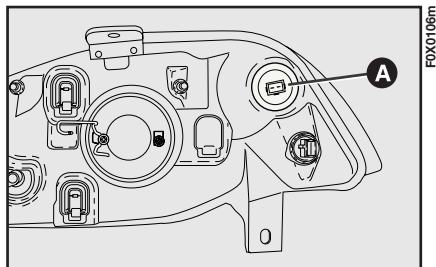

fig. 125
- remove the bulb holder assembly A-fig. 125, turning it anticlockwise;